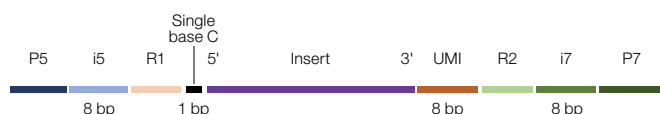

Fig. 3. Final library structure.
- SEQuoia dual indexed primer sequences for the sample sheet can be obtained from the product insert (1000011932; bio-rad.com/SEQDIP). Read 1 (R1) corresponds to the sense strand (Figure 3)
- The first 8 bases on read 2 (R2) consist of a random tag sequence that can be used as a unique molecular identifier (UMI) for identification of PCR duplicates (Figure 3)